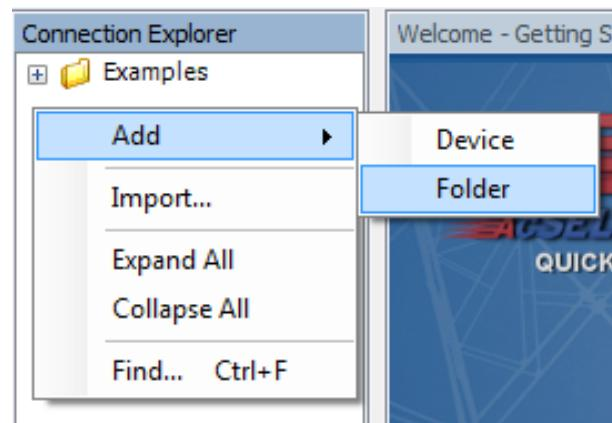

Figure 2.16 Adding a Folder to Device Manager
- Step 2. Right-click in the **Connection Explorer** on the left-hand side of the window and choose **Add > Folder**, as shown in *Figure 2.16*.